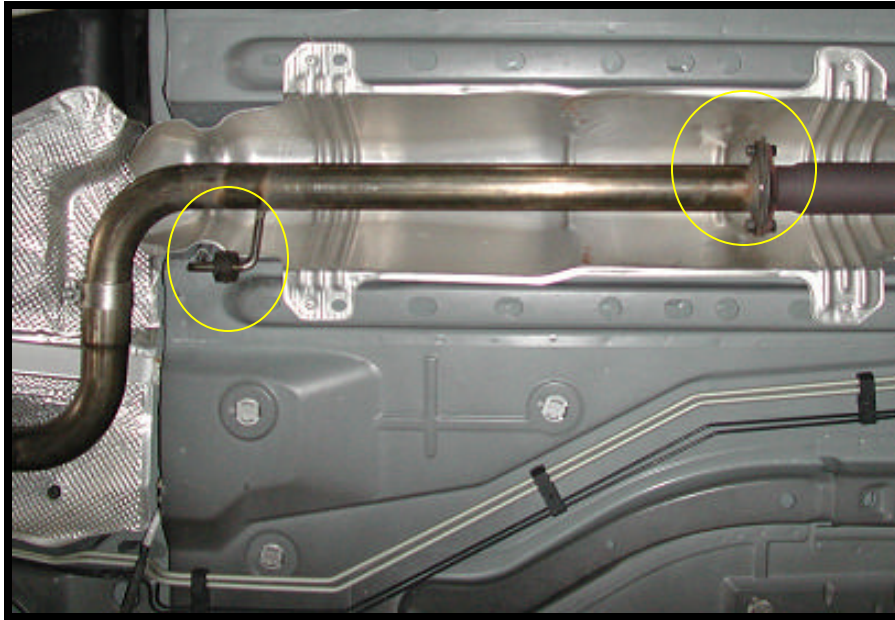

Figure 1: SLP Intermediate Pipe Installed
- 6 Install the SLP intermediate pipe hanger onto the factory rubber isolator and then loosely bolt the SLP flange to the factory flange using the 3/8" hardware supplied. See figure 1 below.